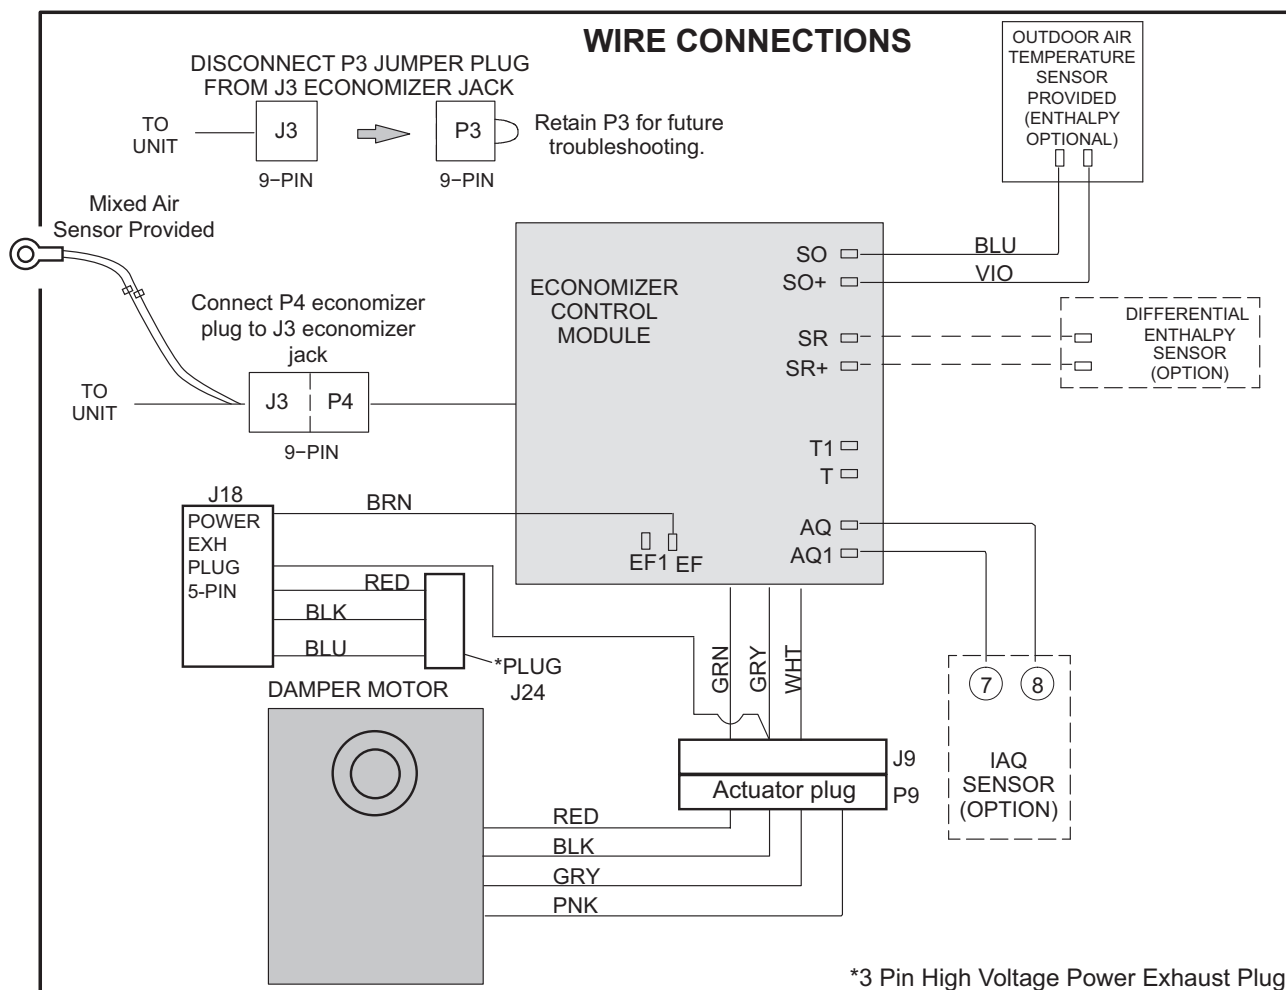

Figure 5 - Wiring Detail
2. Connect any optional sensors as shown in figure 5.
3. If optional power exhaust is installed, wire according to instructions provided with power exhaust. See figure 5.